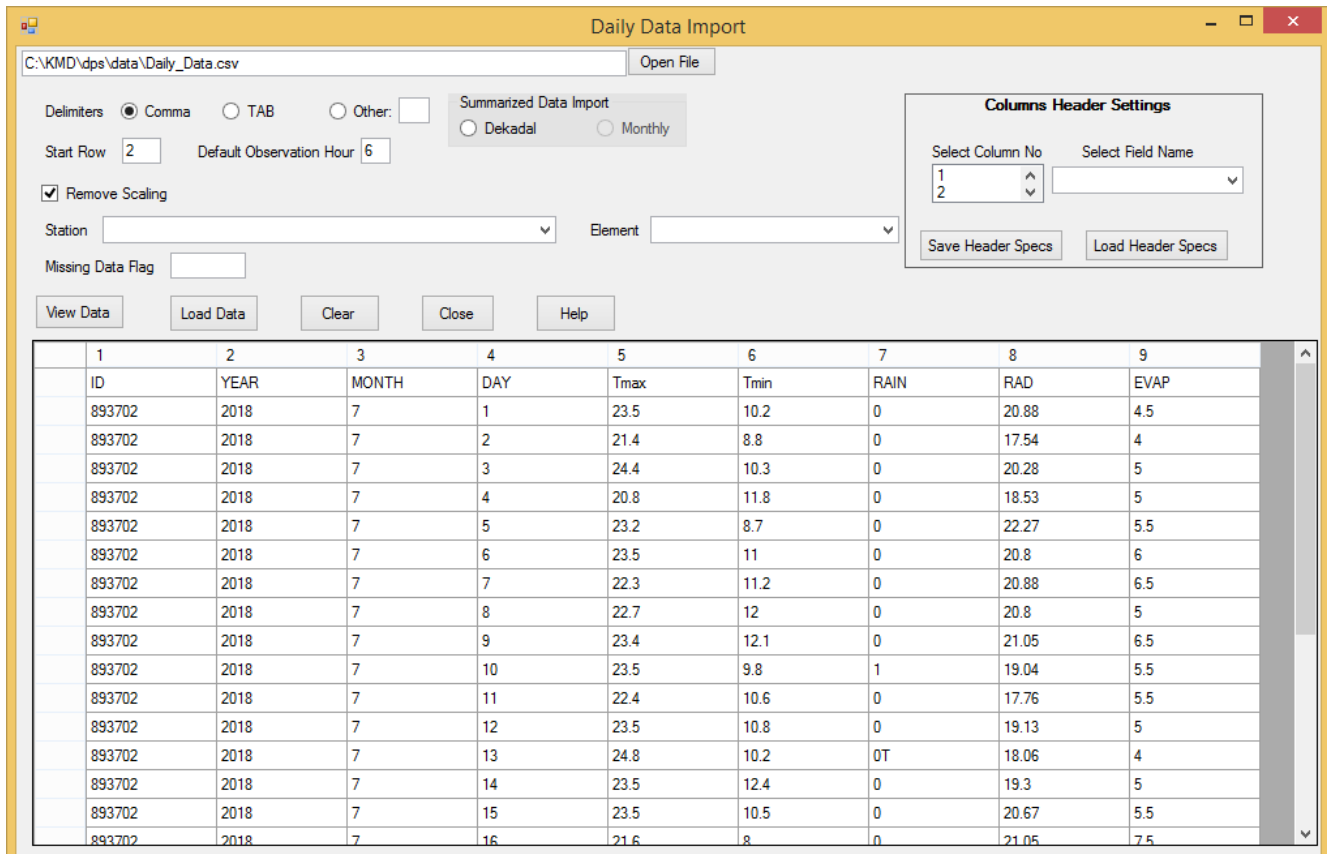

Figure 63: Multiple column data Import
- (iv) After the file has been located, click **Open** in the file open dialog; the filename with its full path will be shown in the “Open File” box. See Figure 63,
- (ix) When all the above steps have been completed click “View Data” button. The table in the dialog is then populated with the data from the selected file. The column headers will be serialised with numbers from 1 up to the last column of that data, as shown in Figure 63.